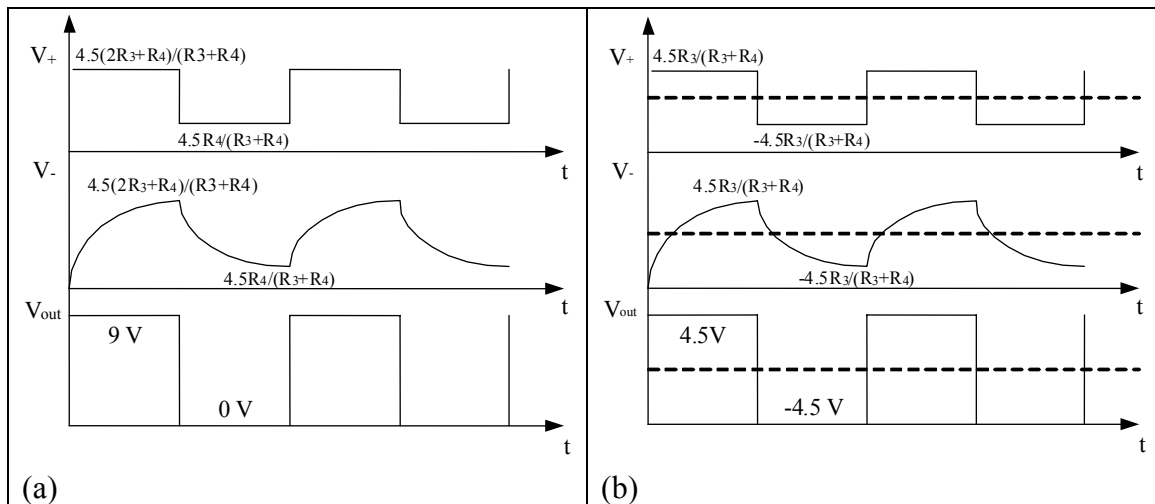

Figure 3. Waveforms of V_+ , V_- and V_{out} (a) with reference of 0 V. (b) with reference of 4.5 V
Therefore, we see that the circuit is toggling between the two states, and the output voltage is either 4.5 V or -4.5 V, which forms a periodic square wave. To understand the oscillation function better, we draw wave forms at V_+ , V_- and V_{out} on the same scale as shown in Figure 3(b). It's clear that the threshold voltages of output high and
as shown in Figure 3 (a). The threshold voltages changes to $4.5 \frac{2R_3 + R_4}{R_3 + R_4}$ and
B. Human eyes can differentiate frequencies smaller than 30 Hz. So we need to make the oscillator frequency in the range 1 ~ 30 Hz. In order to express the frequency in terms of R3, R4 and R5 and C3, let's do some calculations based on the analysis in the above section. Since the two threshold values are symmetric as shown in Figure 3, we know that the duty cycle of the square wave is 50% (half period 9 V and half period 0 V). The period of the square wave is decided by the capacitor charging time constant $R_5 \times C_3$. Let's use the rising half period of V- in Figure 3(a). Since this is a first order RC circuit, the rising part can be express as: